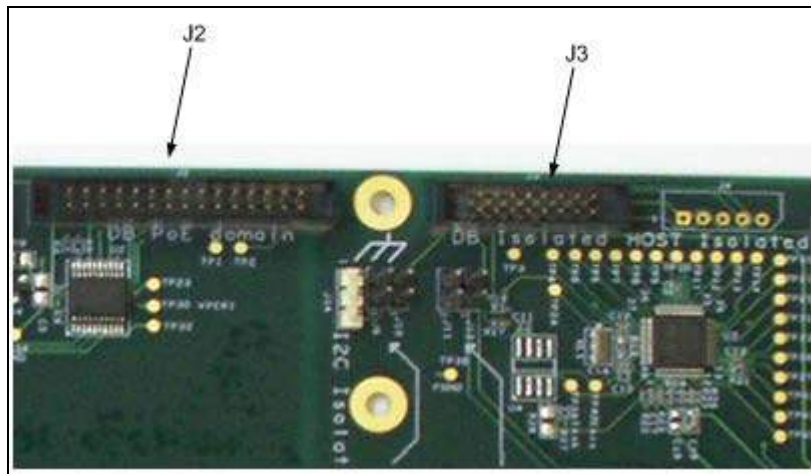

Figure 8: Communication and Indication Connectors
**4. Communication and Indication** (see Figure 8)